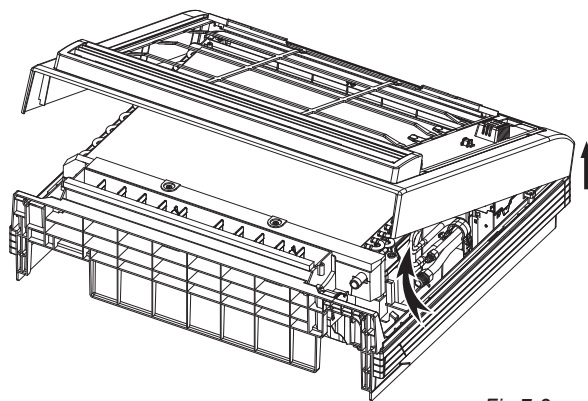

Fig.7-3
- Open the bottom of face plate to a 30 degree angle, then you can remove the top of the face plate. (Refer to Fig.7-3)